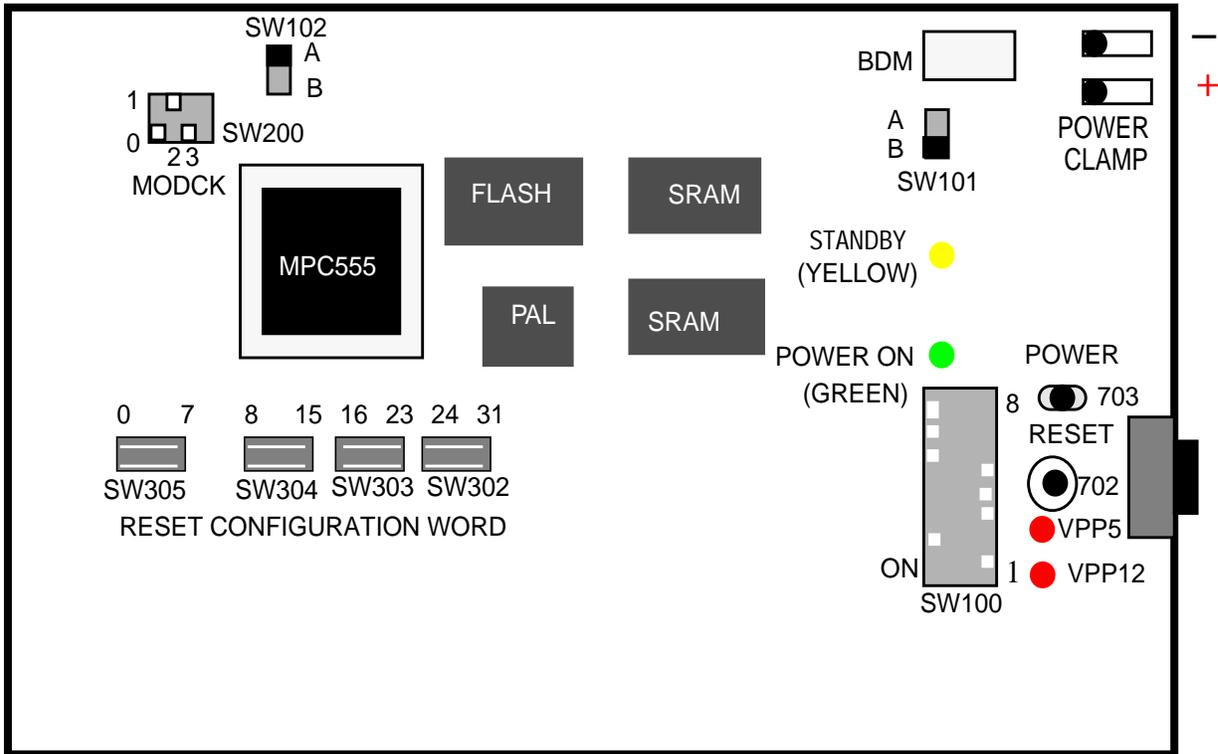

Figure 1. Evaluation Board Layout
Figure 1 illustrates how the evaluation board is laid out.
To set up the board for use in background debug mode (BDM), ensure that all the switches and jumpers are in their correct positions before turning on the board. Use the simplified 555 EVB circuit diagram in Figure 1 to find the appropriate switch locations.
1. Connect the power leads to the EVB using the two clamp connectors shown in **Figure 1** (in the top right hand corner of the EVB). Be sure to observe voltage polarity specifications.